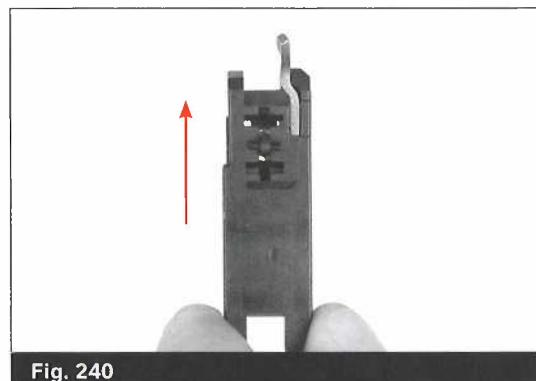

Fig. 240
- Then, slide the tip of the trigger spring rod upwards with your thumb until reaching the top slot in the front of the housing. (Fig. 240/241/242)